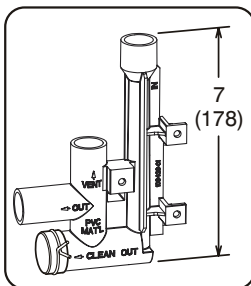

FIGURE 54
- 3 - Install the cap over the clean out opening at the base of the trap. Secure with clamp. See "FIGURE 54".
- 4 - Install drain trap using appropriate PVC fittings, glue all joints. Glue the provided drain trap as shown in "FIGURE 54". Route the condensate line to an open drain.